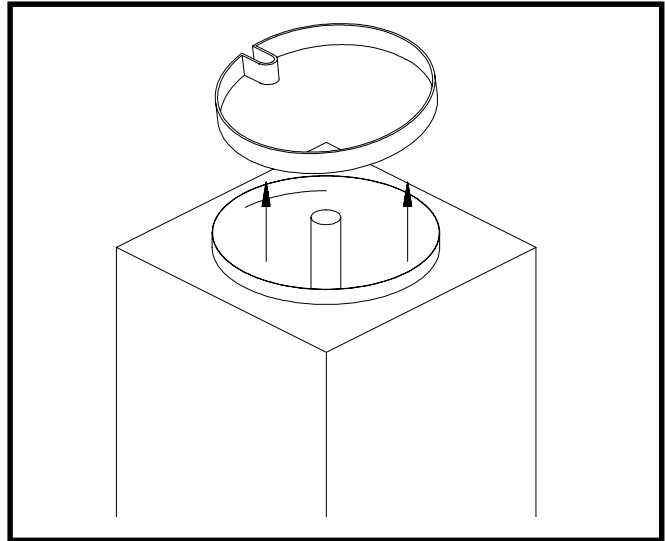

Figure 19
2. Remove the sealer ring by squeezing the looped section and lifting out of the product cylinder (Fig. 19).